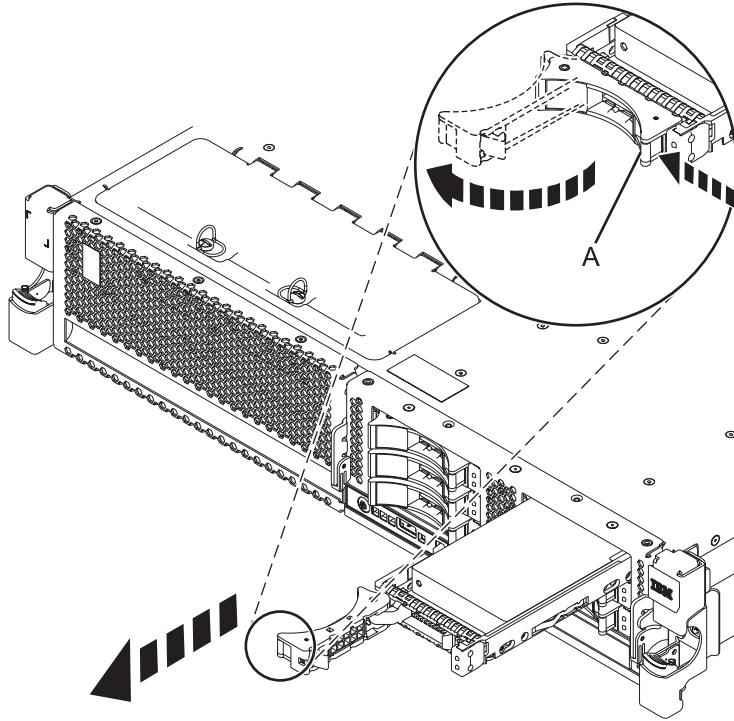

Figure 16. Removing a disk drive from the system
1. Unlock the disk drive or solid-state drive handle by squeezing it and pulling it out toward you, as shown in Figure 16 on page 27.